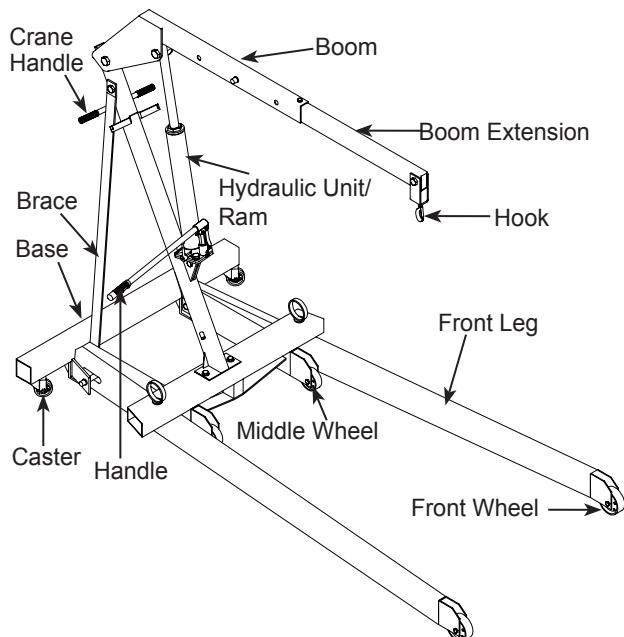

Figure 1 - Model 44010 Nomenclature
1. Make sure all parts are present (ref. Fig. 1 & 3). If any parts are missing or damage, contact customer service.
2. Attach caster (2) to base (1) using M8x16 bolts and washers (4 & 3), then attach 3-1/2" wheels (5) using bolts, washers & nuts (9, 10 & 11).
3. Install the 5" wheels (13) to front legs (12) using bolts, washers & nuts (9, 10 & 11).
4. Attach two front legs (12) to base (1) using pin, "E" clip, snap pin & lock bolt (14, 15, 16 & 17).
5. Attach upright (18) to base (1) using two bolts & nuts (20 & 10). Upright must lean towards the rear of the base as shown. Leave nuts finger tight.
6. Attach two braces (21) to upright (18) with bolt, washer & nut (22, 10 & 11). Leave nut finger tight.
7. Attach the bottom of braces (21) to inside of base (1) using two each bolts & nuts (23 & 10).
8. Tighten all bolts from upright (18) to base (1), braces (21) to upright (18), and braces (21) to base (1).
9. Attach hydraulic unit (32) to the mounting bracket (28) using bolts, washers & nuts (33, 34 & 35). *Handle socket of hydraulic unit must face the front of the base as shown.* Then position the assembly between mounting ears on upright (18), and attach using bolt, washer & nut (29, 30 & 31). Tighten nut. Lean hydraulic unit assembly back against upright.
10. Connect boom (24) to upright using bolt, washer & nut (25, 26 & 27).
11. Hold boom (24) and pivot hydraulic unit (32) out away from upright. Attach the ram of hydraulic unit (39) to boom with bolt, washer & nut (37, 30 & 31). Tighten nut.